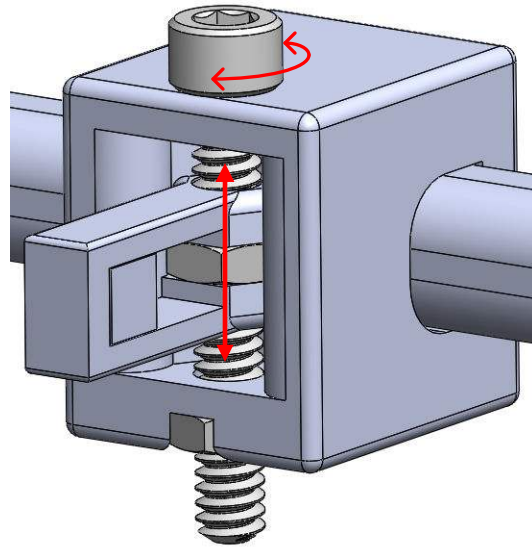

Figure 3-12. Vertical Adjustment Screw
- b. You can adjust the vertical position of the magnet by turning the screw shown in Figure 3-12.